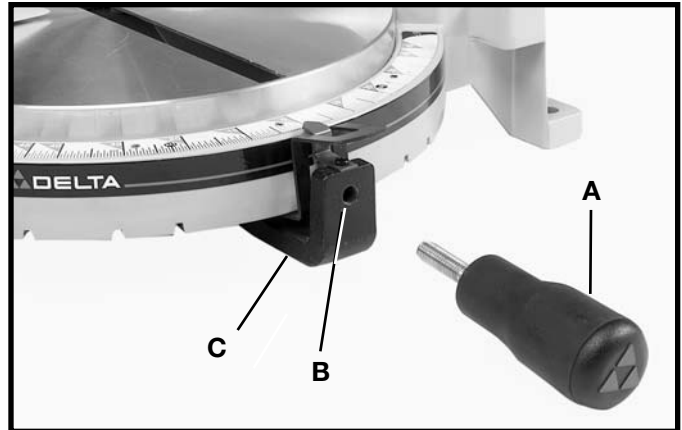

Fig. 5
1. Thread the table lock handle (A) Fig. 5, into the hole (B) in the arm bracket (C).